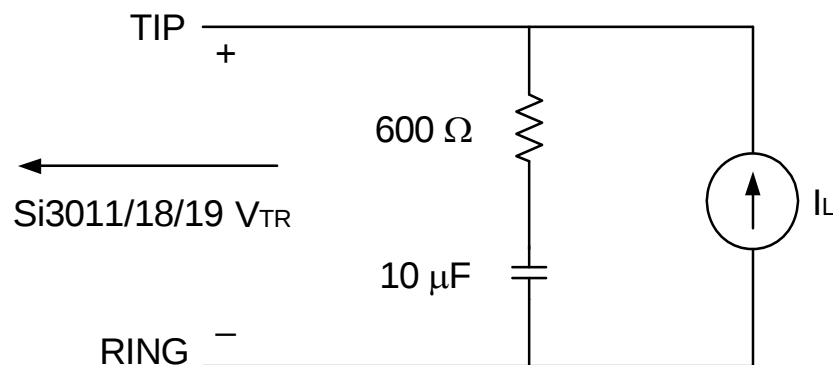

Figure 1. Test Circuit for Loop Characteristics
($V_D = 3.0$ to 3.6 V, $T_A = 0$ to 70 °C, see Figure 1 on page 6)
1. Measured at TIP and RING with $600\ \Omega$ termination at 1 kHz, as shown in Figure 1 on page 6.
1. Measured at TIP and RING with 600 Ω termination at 1 kHz, as shown in Figure 1 on page 6.